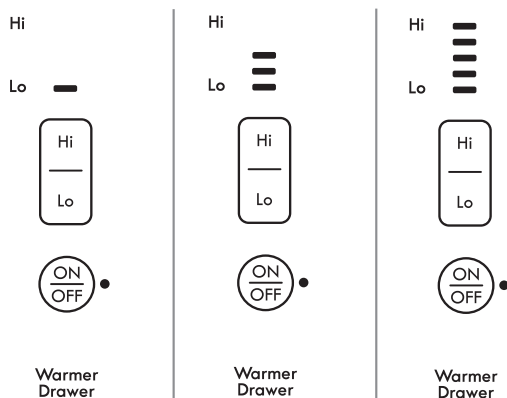

Figure 46: Setting desired temperature in warmer drawer
The warmer drawer control is located on the left side of the control panel. Use the warmer drawer control key to turn ON and OFF and make temperature adjustments. Available temperature settings are approximate, and are designated by Lo, Med, and Hi (Figure 46). If needed, refer to Warmer drawer recommended food settings provided in this section.
3. Press **Hi Lo** key to toggle to the desired temperature setting. Release when the desired temperature setting is displayed by the indicator lights. (Figure 46).